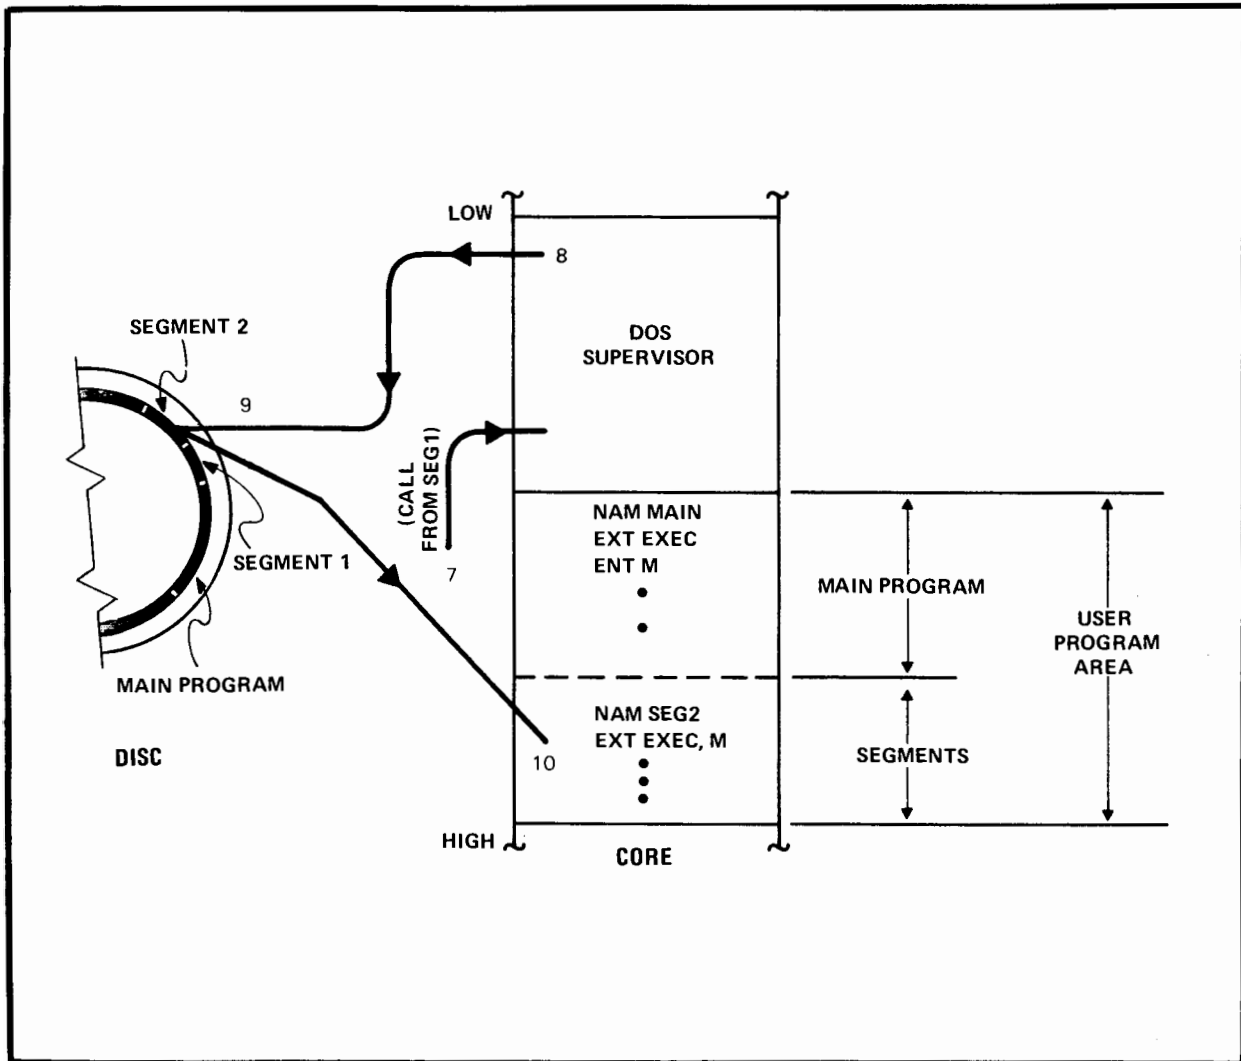

Figure 4-3. Segment Calling Segment
Figure 4-3 shows how DOS-M processes the request from the segment (7) by locating the segment on the disc (8-9), loading it into core (10), and beginning execution of it.